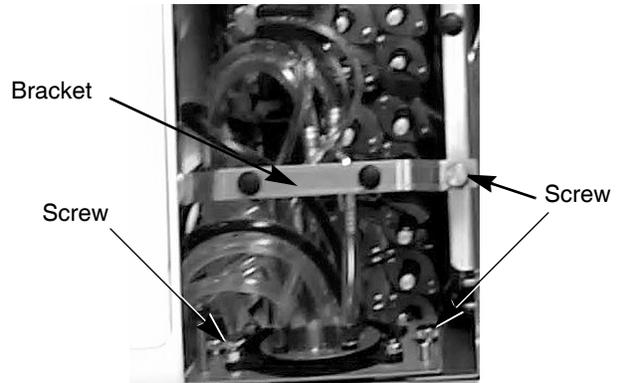
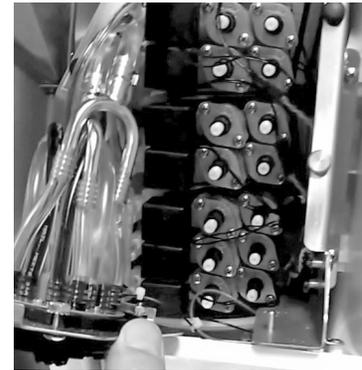

Figure 65.
Figure 66.
1. Loosen the screw holding the bracket, shown in Figure 65, and lift the bracket up out of the way.
2. Loosen the two (2) thumbscrews holding the valve assembly at the bottom of the compartment and remove them.
3. Lift the valve assembly and rotate it 90° so that the flow adjustment valves are accessible, as shown in Figure 66.